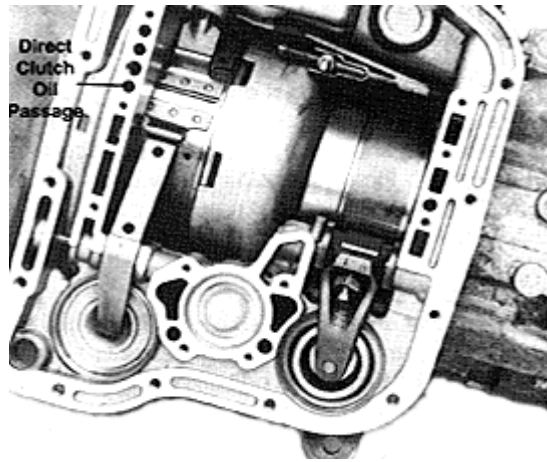

Figure 4
**Step 5** The 1-2 accumulator piston is located in the case between the front and rear servos. (See Figure 4) Remove the piston by pulling straight down. There will be a small amount of oil behind the piston, so be careful you don't get splattered. If there is a spring behind the accumulator piston, remove and discard it. DO NOT reinstall either spring into the accumulator assembly.
**Step 6** A51 8 (46RH/47RH) only. A500 (42RH/42RE) proceed to step 7. Install the furnished cupped orifice plug into the direct clutch oil passage in front of case. (See Figure 4)